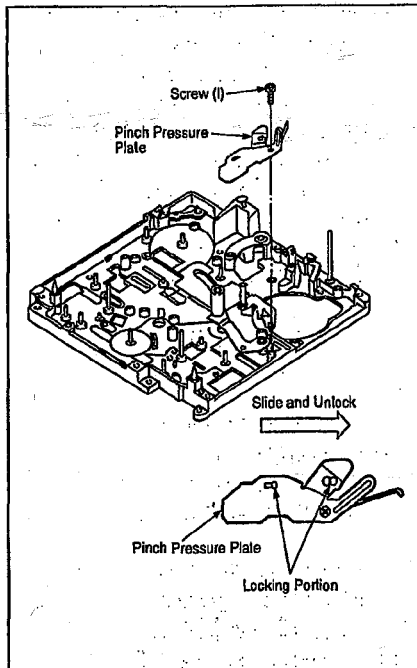

Fig. M10
| 7. Pinch Arm & unlock T3 Arm Unit | Fig. M10 | Unscrew screw (I), then slide the Pinch Pressure Plate and unlock the locking portion.   |